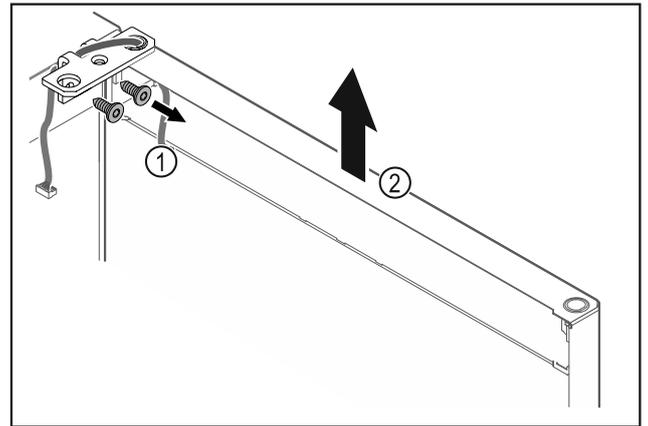

Fig. 24
- ▶ Unscrew the hinge Fig. 24 (1).
- ▶ Lift the door with the hinge straight up by Fig. 24 (2) roughly 200 mm and take it off.